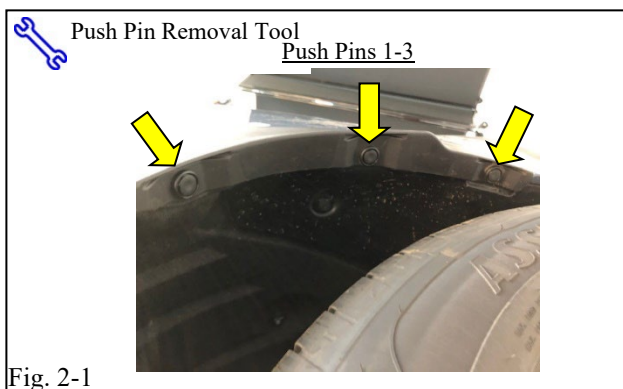

Fig. 2-1
- (a) Use a flat head screwdriver or clip puller to remove 4 push pins along the wheel liner (Figs. 2-1 & 2-2).